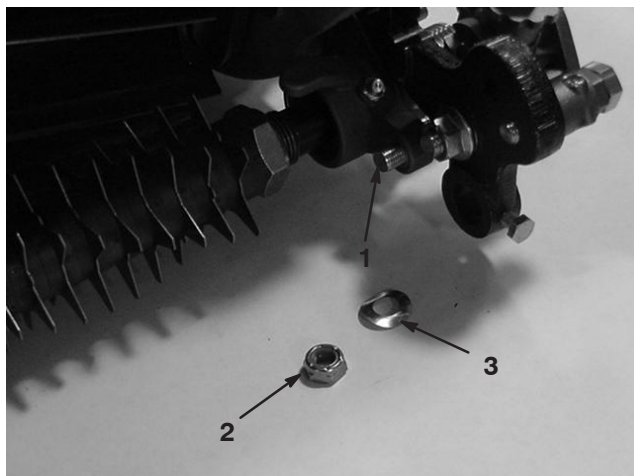

Figure 15
27. Secure adjuster arm assembly rod end to groomer drive assembly with a Belleville washer and locknut (Fig. 15). Do not overtighten locknut. Washer should be compressed but the arm must be free to pivot.
32. Secure adjuster arm assembly rod end to groomer drive assembly with a Belleville washer and locknut (Fig. 15).